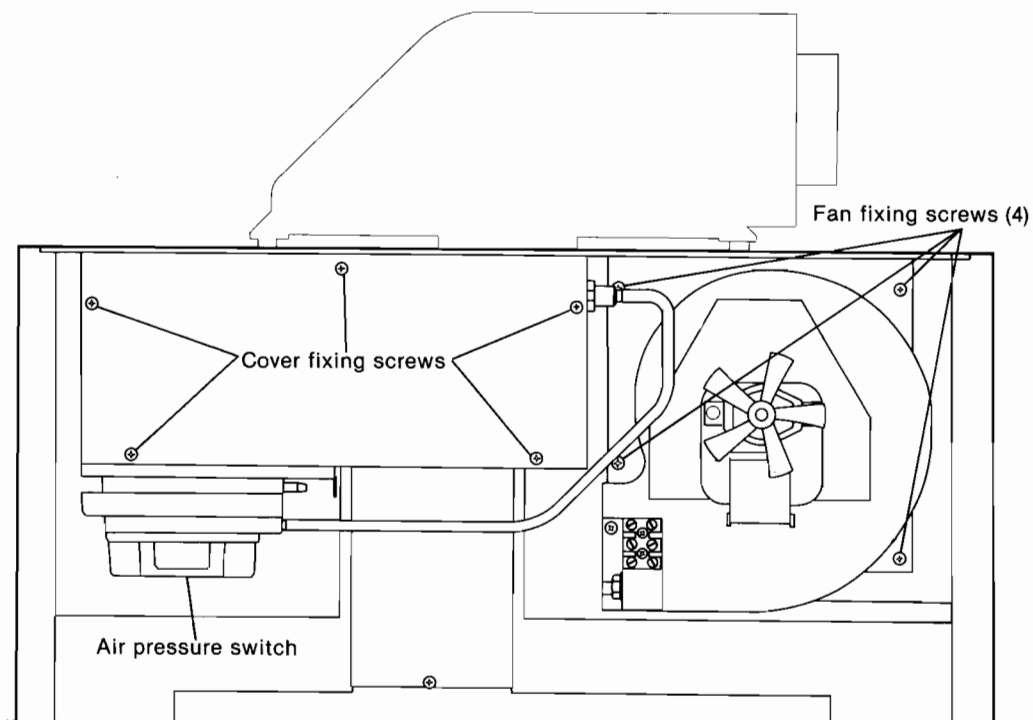

Fig. 45
- b) Remove the five screw securing the air collection plate (fig. 45), and withdraw the plate complete with the air pressure switch. (Take care not to lose "P" clip).
- c) Unscrew the four fixing screws securing the fan remove air sensor tubes and withdraw fan (fig. 45).